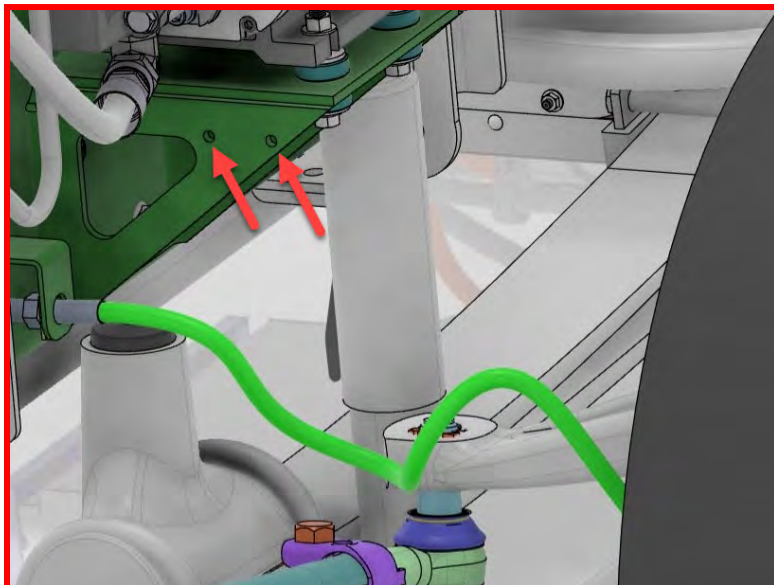

Figure 10 - Mounting Holes for Drivers Side Brake Line Bracket
2. Locate the two (2) holes in the power steering motor bracket (Figure 10), these will be used to mount the drivers side brake line bracket.